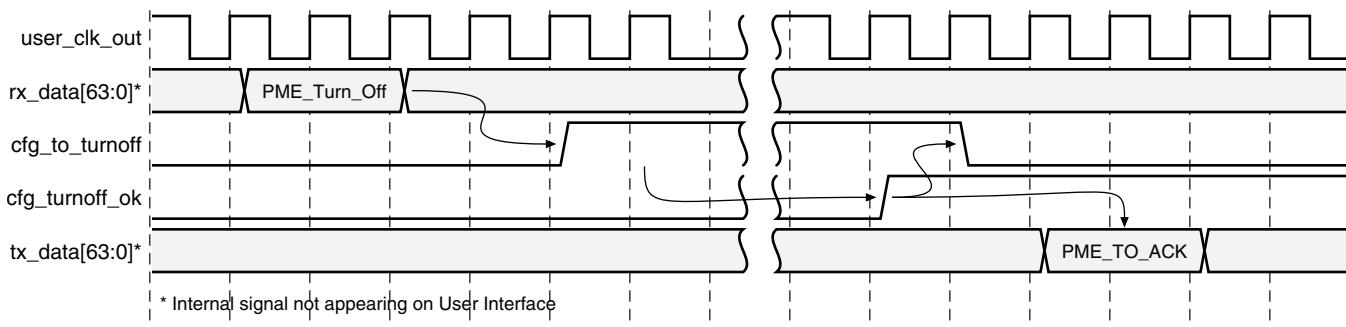

Figure 3-67: Power Management Handshaking: 64-Bit
4. The core sends a PME\_TO\_Ack when it detects assertion of cfg\_turnoff\_ok, as displayed in Figure 3-67 (64-bit).